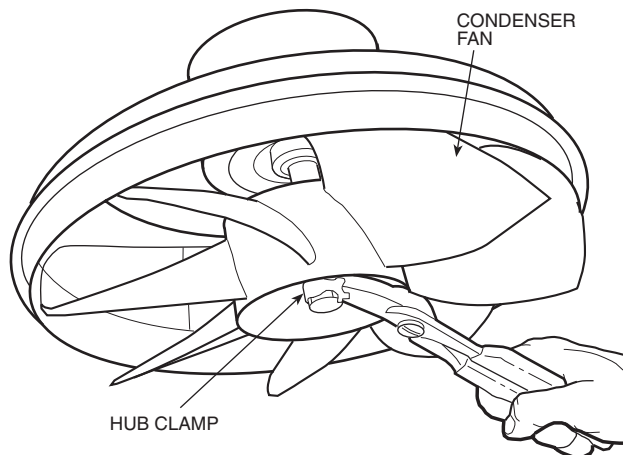

FIGURE 18 — REMOVING CONDENSER FAN HUB CLAMP
- d. Using Needle Nose Pliers remove condenser fan hub clamp. See Figure 18.